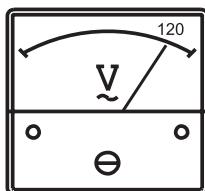

Figure 36. Voltmeter
- The generator's AC voltmeter (Figure 36) will display the generator's output in **VOLTS**.